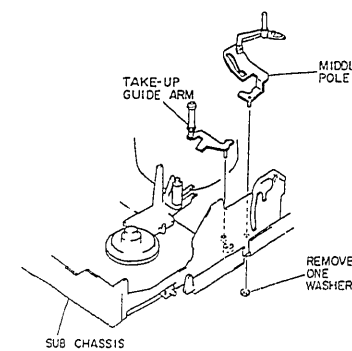

Fig. 2-39
- 3) Pull out the take-up guide arm from the sub chassis. (See Fig. 2-39)
- 4) Remove one (1) washer from the middle pole shaft and pull out the middle pole from the main chassis.